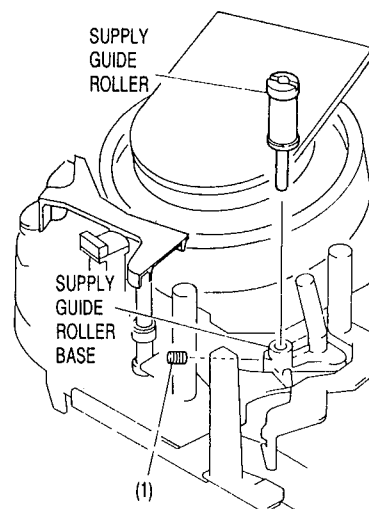

Fig. 3-18
- 1) Loosen 1 hexagonal screw (1) holding the supply guide roller. (See Fig. 3-18)